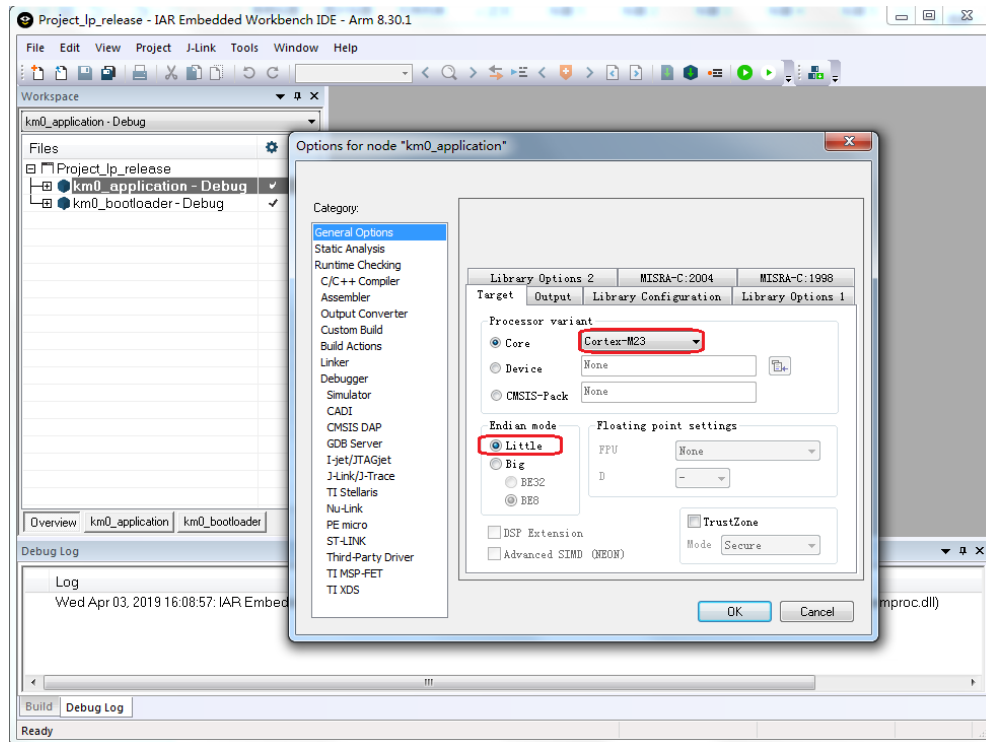

Fig 4-1 KM0 processor options
- (1) Open **ambd_amazon-freertos/projects/realtek/amebaD/IAR/aws_demos/Project_lp_release.eww**.
- (2) Make sure km0_bootloader and km0_application are in Workspace. Click **Project > Options, General Options > Target > Processor Variant > Core**, verify the CPU configurations according to Fig 4-1